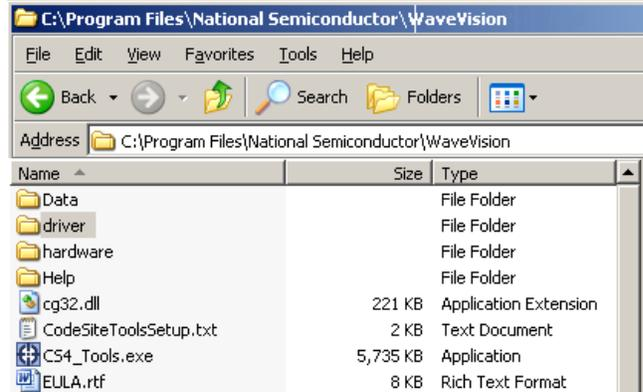

Figure 5: Driver folder in installation directory
6. Browse the file system to find and select the \driver folder in the installation directory of the WaveVision 5 software. Figure 5 shows an example location of the \driver directory.